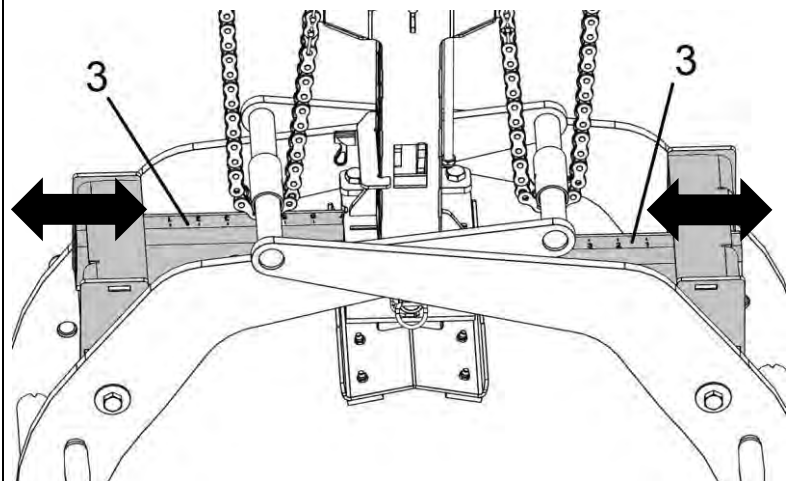

Fig. 3
4. Move the side parts (3) on both sides (synchronously to each other) until the required gripping range for the material to be gripped (concrete pipe) is set (fig. 3).